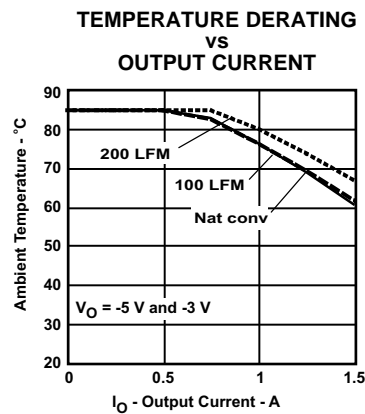
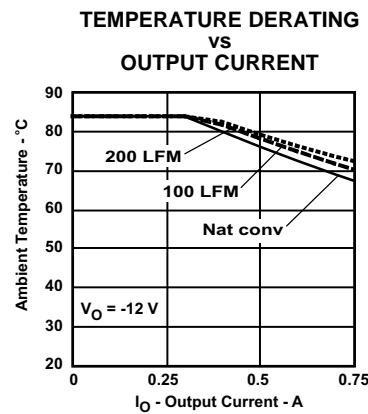
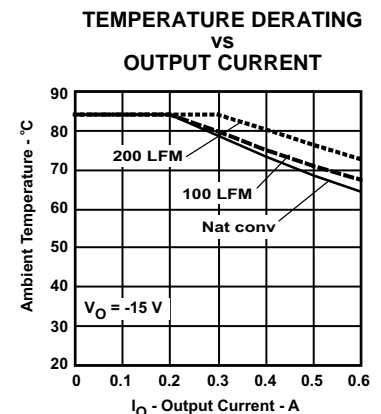

Figure 10.
Figure 11.
Figure 12.
- (2) The temperature derating curves represent the conditions at which internal components are at or below the manufacturer's maximum operating temperatures. Derating limits apply to modules soldered directly to a 100-mm x 100-mm, double-sided PCB with 2 oz. copper. Applies to Figure 10, Figure 11, and Figure 12.